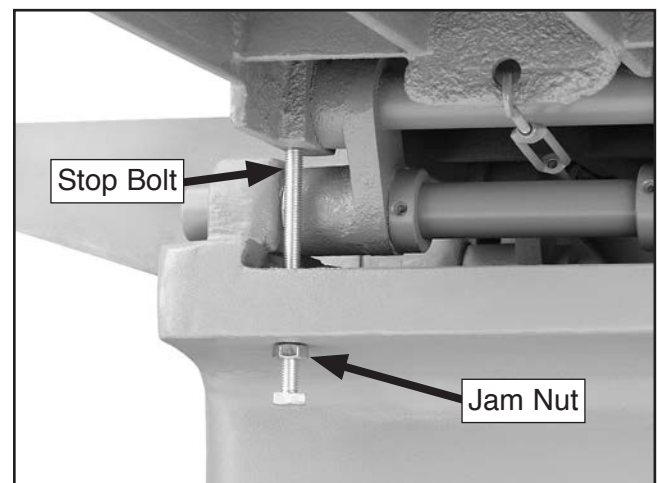

Figure 73. Outfeed table stop bolt (viewed from underneath the table).
5. Use the same process you performed in **Step 9 on Page 46** to raise or lower the left or right end of the infeed table to eliminate the gaps. Adjust the adjustment bolts equally on each side for the targeted end of the table, one after the other, in very small increments (see **Figure 73**).